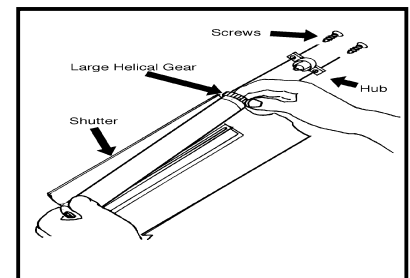

Figure 2
2. Remove the OPC drum (2 screws, Fig. 2). **NOTE:** Move the shutter to the open position to access the 2 hub screws. Remove the hub. Lift the OPC drum by the large helical gear. Clean, inspect and lubricate the drum. Replace if necessary.